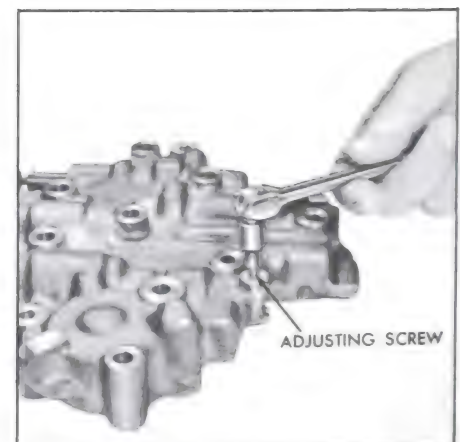

Figure 5-575
11. If removal is necessary, back out adjusting screw EXACTLY FOUR TURNS. Remove bore plug, spring and 1-2 accumulator valve. See Figure 5-575.